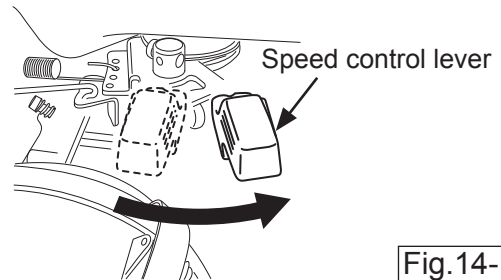

Fig.14-1
- Open the speed control lever half. (Fig.14-1, 14-2, 14-3)